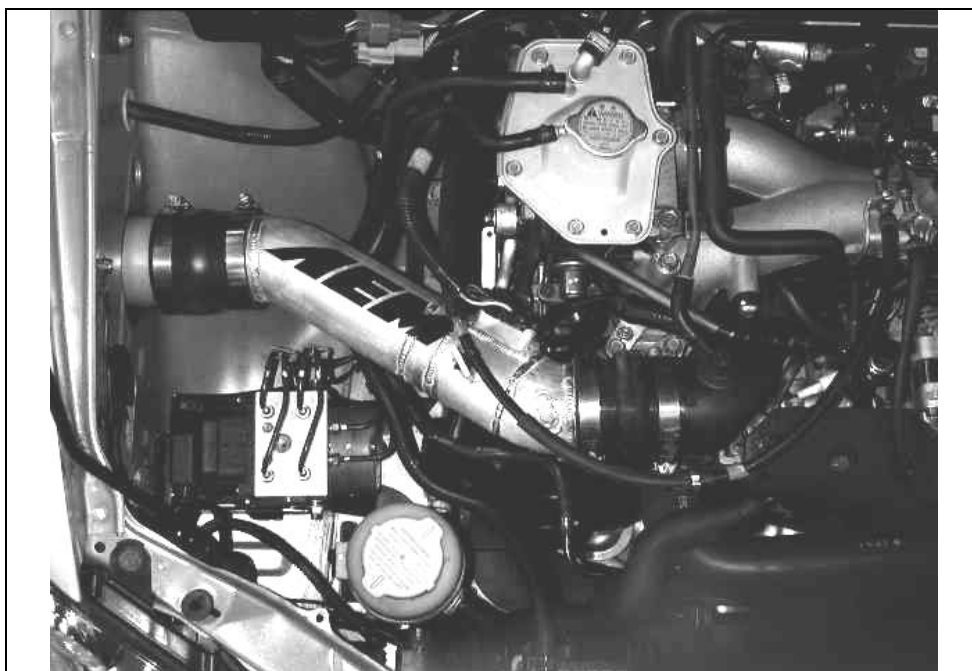

Fig. 15
- q) Your **AEM** Cold Air Intake System's installation should look similar to **Fig. 15**.